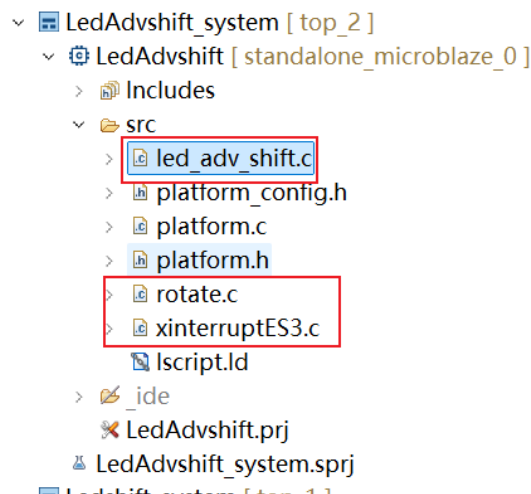

Figure 19.
1. As shown in Figure 19, in order to control the speed of led shifting, a **rotate function** has been written for you (see **rotate.c** in the Lab3 – Codes folder). There are two functions in this file. Use the rotateLeft() function. Try and see if you can explain how these functions work.